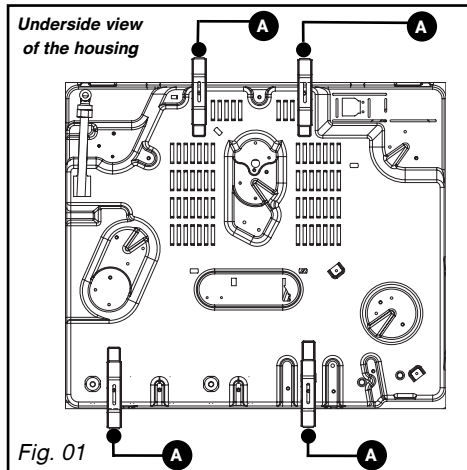
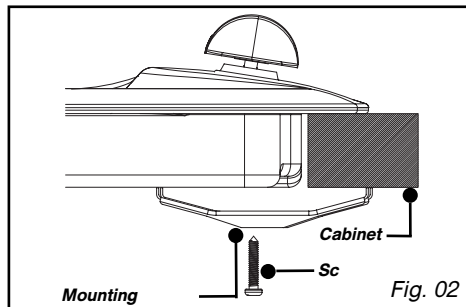

Fig. 01
Fig. 02
To ensure that the hob and the work top are leaktight, glue the seal provided in the front pocket before installing the hob: Follow the diagram (Fig. 01).
– To ensure a tight seal between the housing and the work top, glue the foam seal **along the exterior edge of the housing** (Fig. 02).
- If you wish, you can immobilise the hob using the four mounting brackets delivered with a screw (Fig. 02) to attach them to the four corners of the housing. **You must use the holes provided for this purpose, according to the diagram above (Fig. 01).**